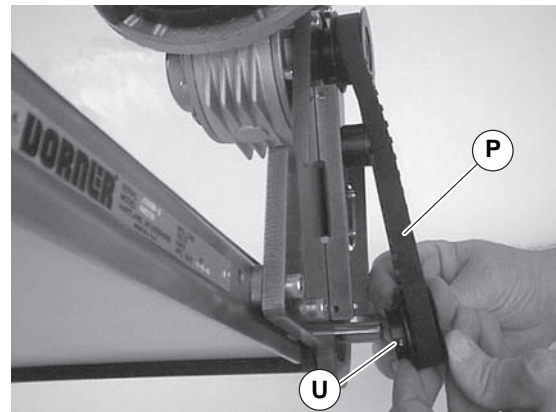

Figure 19
3. Remove timing belt (Figure 19, item P).
*If timing belt does not slide over pulley flange, loosen driven pulley set screws (Figure 19, item U) and remove pulley with belt (P). For re-installation, see steps 7 and 8 on page 11.*